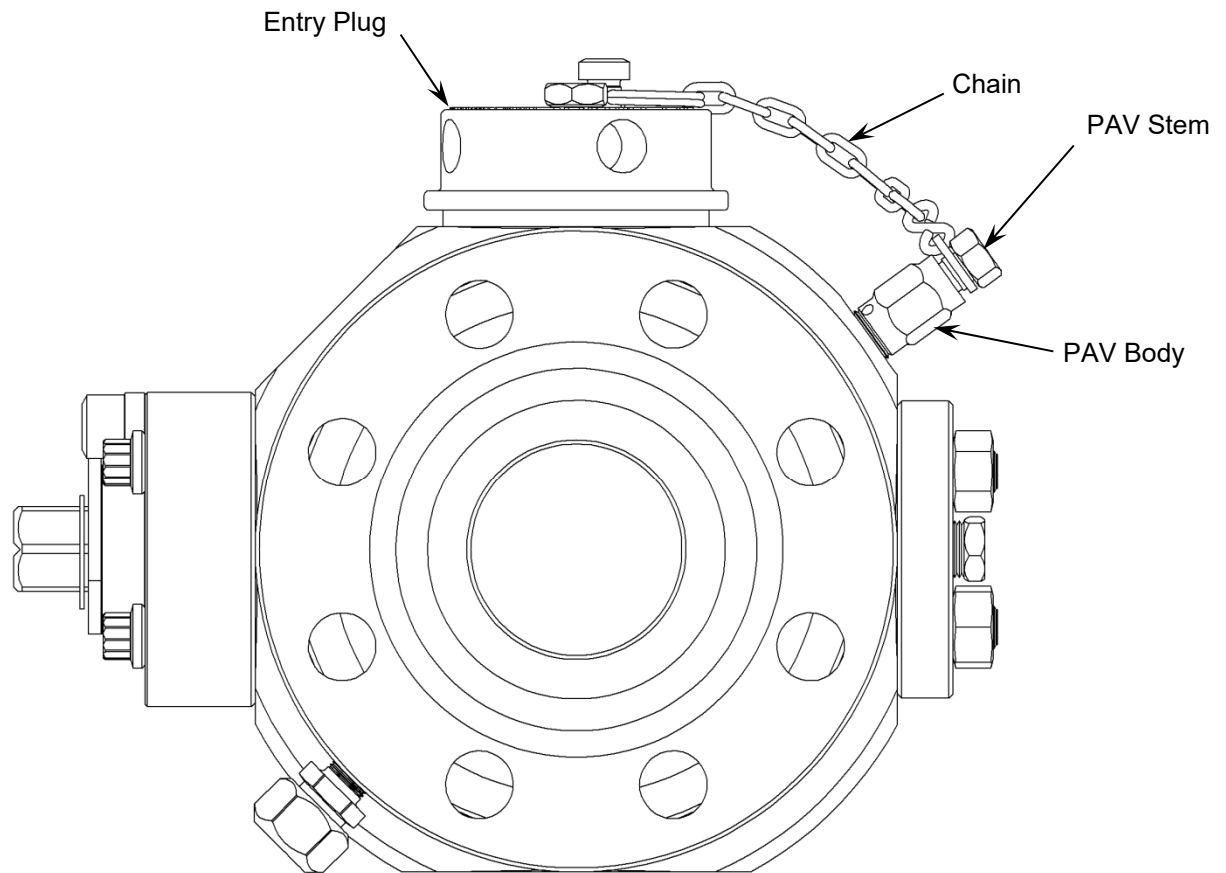

Figure 6: Argus Pig Valve c/w Pressure Alert Valve
7.4 PRESSURE ALERT VALVE OPERATION (Refer to Figure 6)